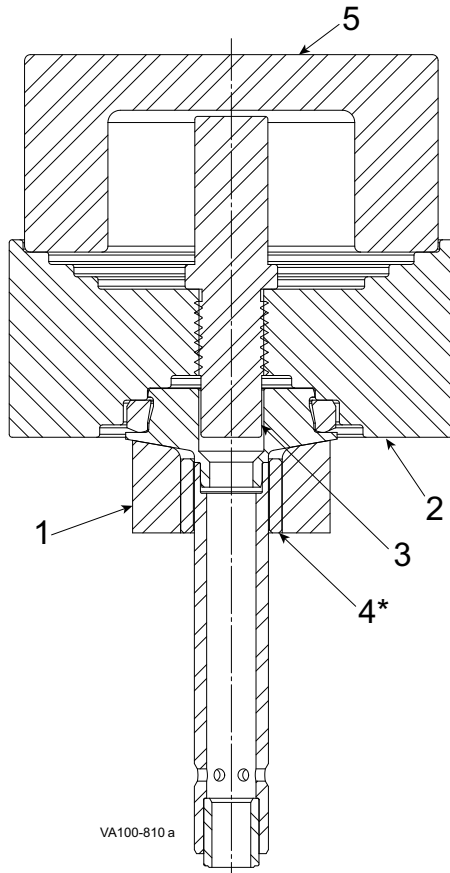
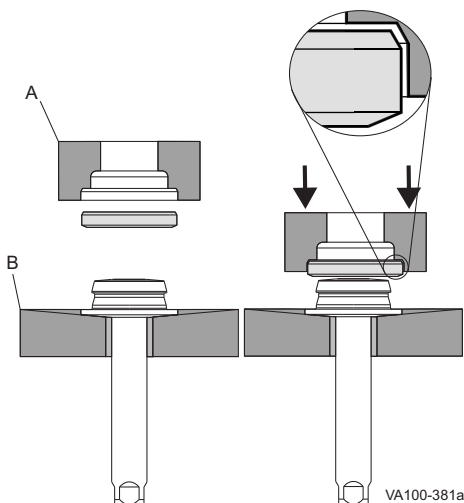

Figure 30 - Upper Stem Tef Flow® P Seat Installation (Kit # 132356+)
Figure 31: Tef Flow® P Seat
2. Place the PTFE installation base (Figure 30, item 1; Figure 31, item B) over the stem, making sure that the chamfered side rests on top of the stem plug and the flat side of the base faces away from the stem plug.
3. Take the aluminum seat installation tool (Figure 30, item 2; Figure 31, item A) and install the aluminum locator pin (Figure 30, item 3) by threading it into the seat installation tool, orienting it so that the locator pin fits into the seat plug and the correct size shoulder matches the seat that is being installed.
4. Place the new Tef Flow® P Seat in the aluminum seat installation tool (Figure 30, item 2; Figure 31, item A), orienting the seat so that the side with the chamfered edge is facing into the installation tool as shown in Figure 31.
7. Set the protective installation tool puck (Figure 30, item 5) over the top of the locating pin and installation tool.
8. With the arbor press, apply even pressure to the top of the installation tool puck (Figure 30, item 5) until the seat snaps into place on the stem plug.